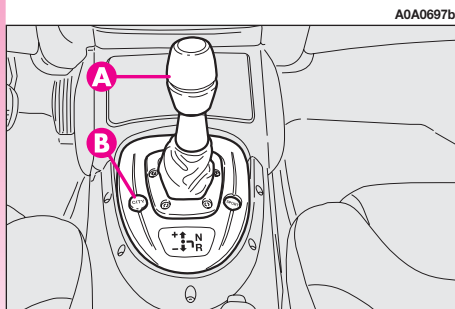
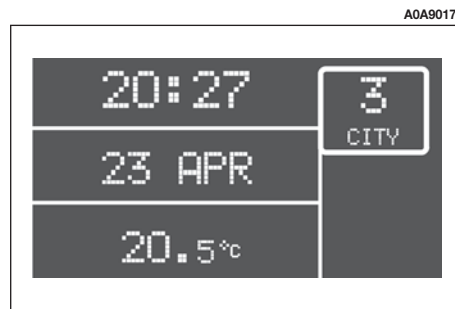
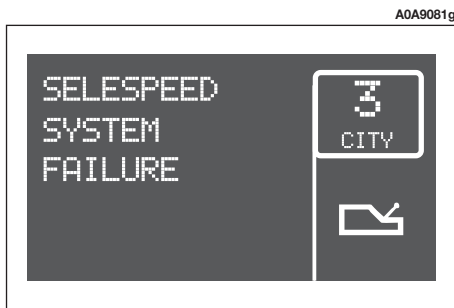

fig. 117
fig. 119
fig. 120
- the second is automatic, called **CITY** (when selecting **CITY** with button **B-fig. 117**, the word **CITY** will be displayed **fig. 119**). In this mode the system decides directly when to shift gear.
The gear selected (**fig. 119**) is always displayed regardless of the mode being selected selected .
A warning light, a message (**fig. 120**) and a buzzer draw the attention of the driver in the event of a fault at Selespeed transmission.
Turning the ignition key to **MAR**, all the segments of the display (**fig. 119**), the gearbox warning light (**fig. 120**) and the word **CITY** turn on. After about one second, the display indicates the gear engaged (**N, 1, 2, 3, 4, 5, R**).